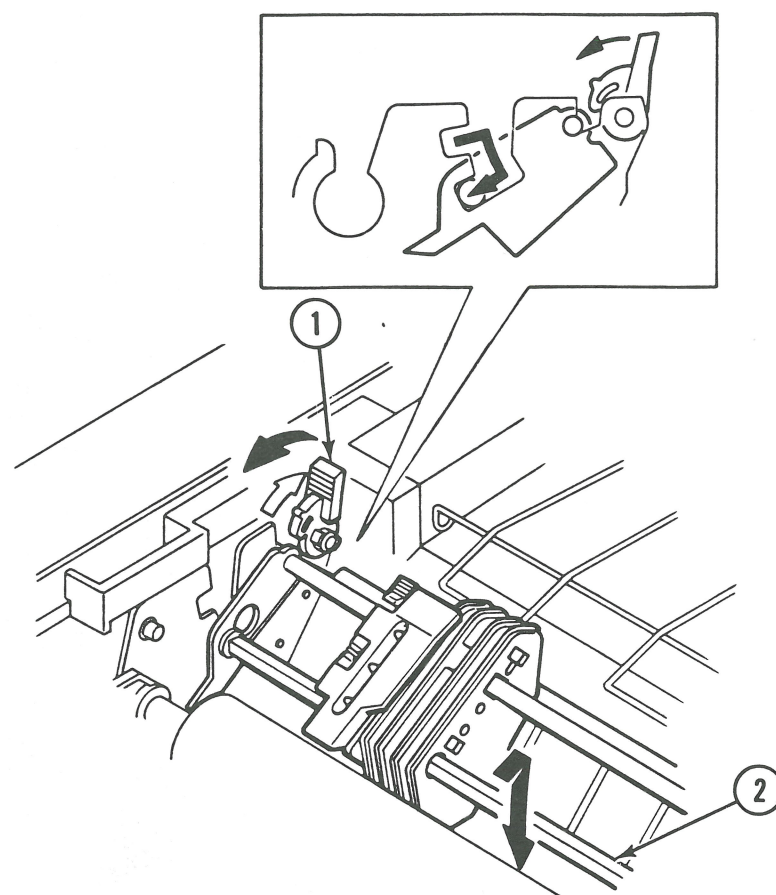

FIGURE 3
- SF-IPL.5 Single Bin (Figure 3)
- a) Push both the right (Figure 3, #1) and left blue tractor levers toward the back of the printer to release the tractor.
- b) With your thumbs on the middle of the tractor shaft (Figure 3, #2), lift up slightly, then push down and toward the rear of the printer until the tractor block locks in place.